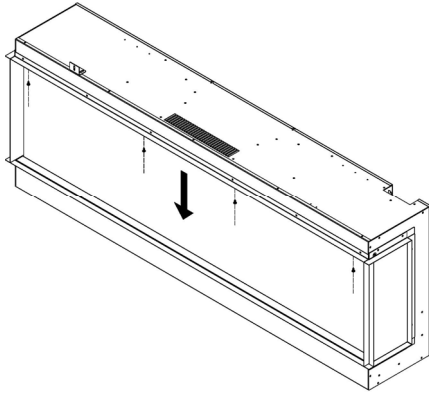

Fig.1-1
- Take off all screws from the top the glass panel. Fig.1-1